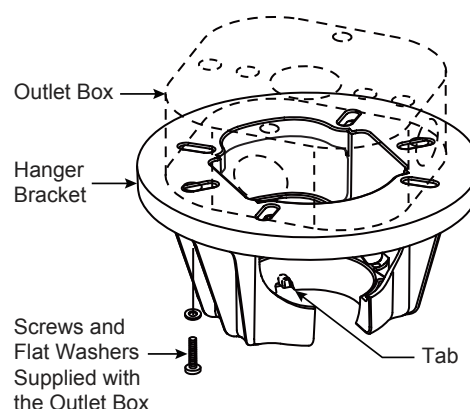
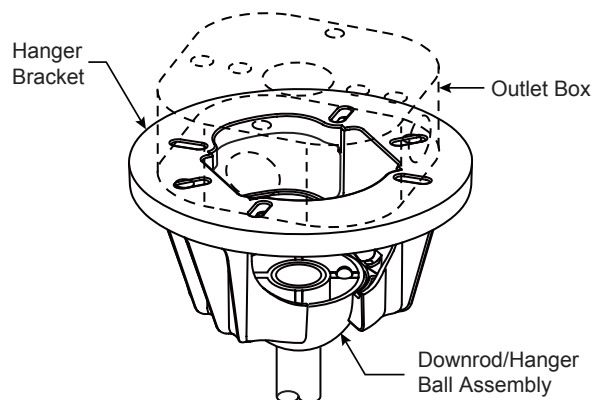

Figure 3
Figure 4
- ☐ 3. Carefully lift the fan and seat the downrod/hanger ball assembly onto the hanger bracket that was just attached to the outlet box. (Figure 4) Be sure the groove in the ball is lined up with tab on the hanger bracket. (Figure 3)